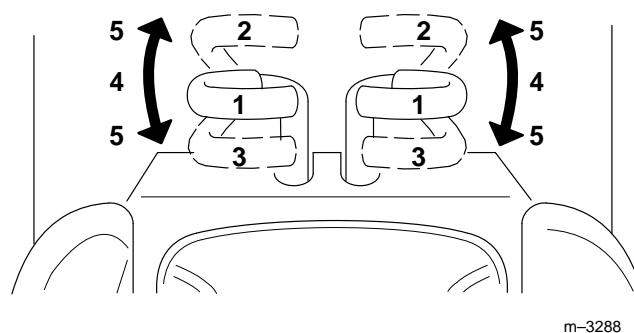

Figure 9
2. To go forward, slowly push the motion control levers forward (Fig. 9).
To go straight, move both motion control levers the same distance (Fig. 9).
To turn move the motion control lever to neutral, on the side you want to turn toward (Fig. 9).
2. To go backward, slowly pull the motion control levers rearward (Fig. 9).